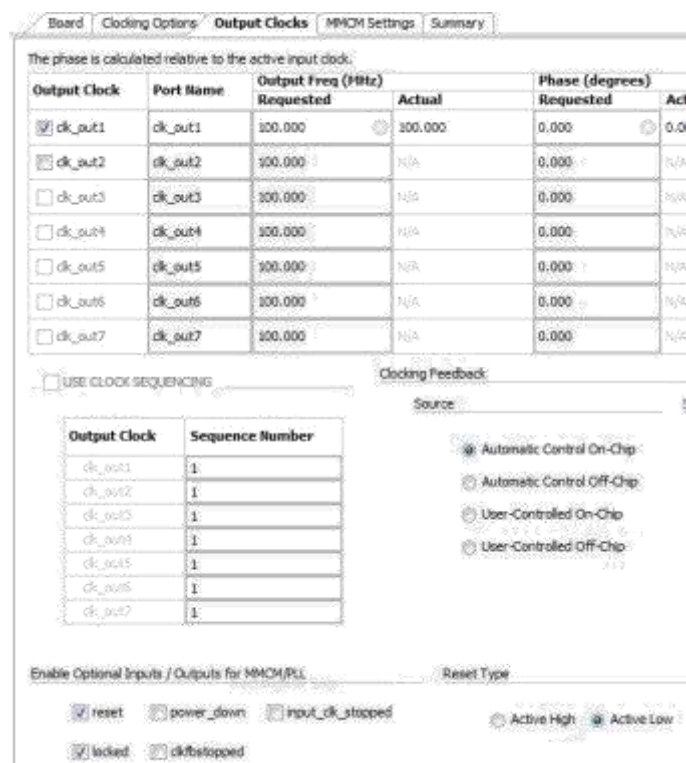

Figure 18: Keep Active High unchanged Polarity for Clocking Wizard (The figure is wrong)
3. In the **Output Clocks** tab, notice the Reset Type section, which is Active High. Keep this unchanged as an inverter is used (Figure 18).